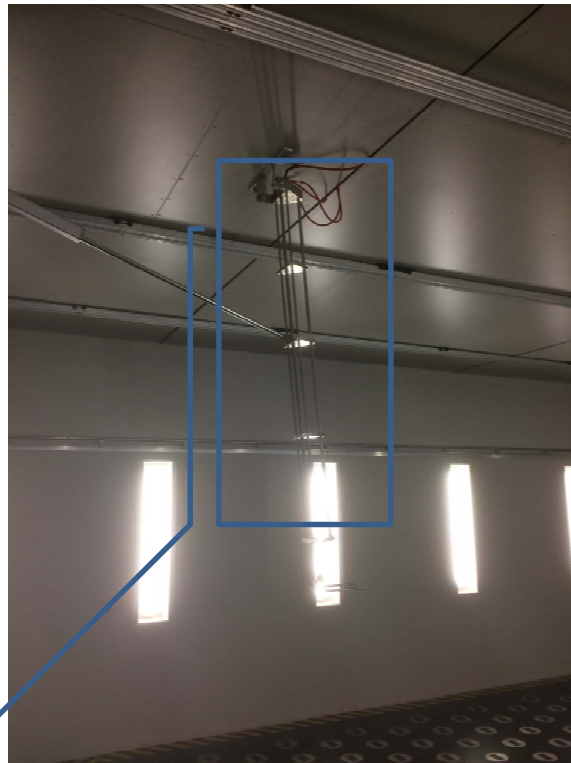

Figure 3.
- 2.1.4 Verify the Cobra Probe robot gantry is out of the way and, if velocity measurements are needed, lower the pitot tubes (fig. 3).